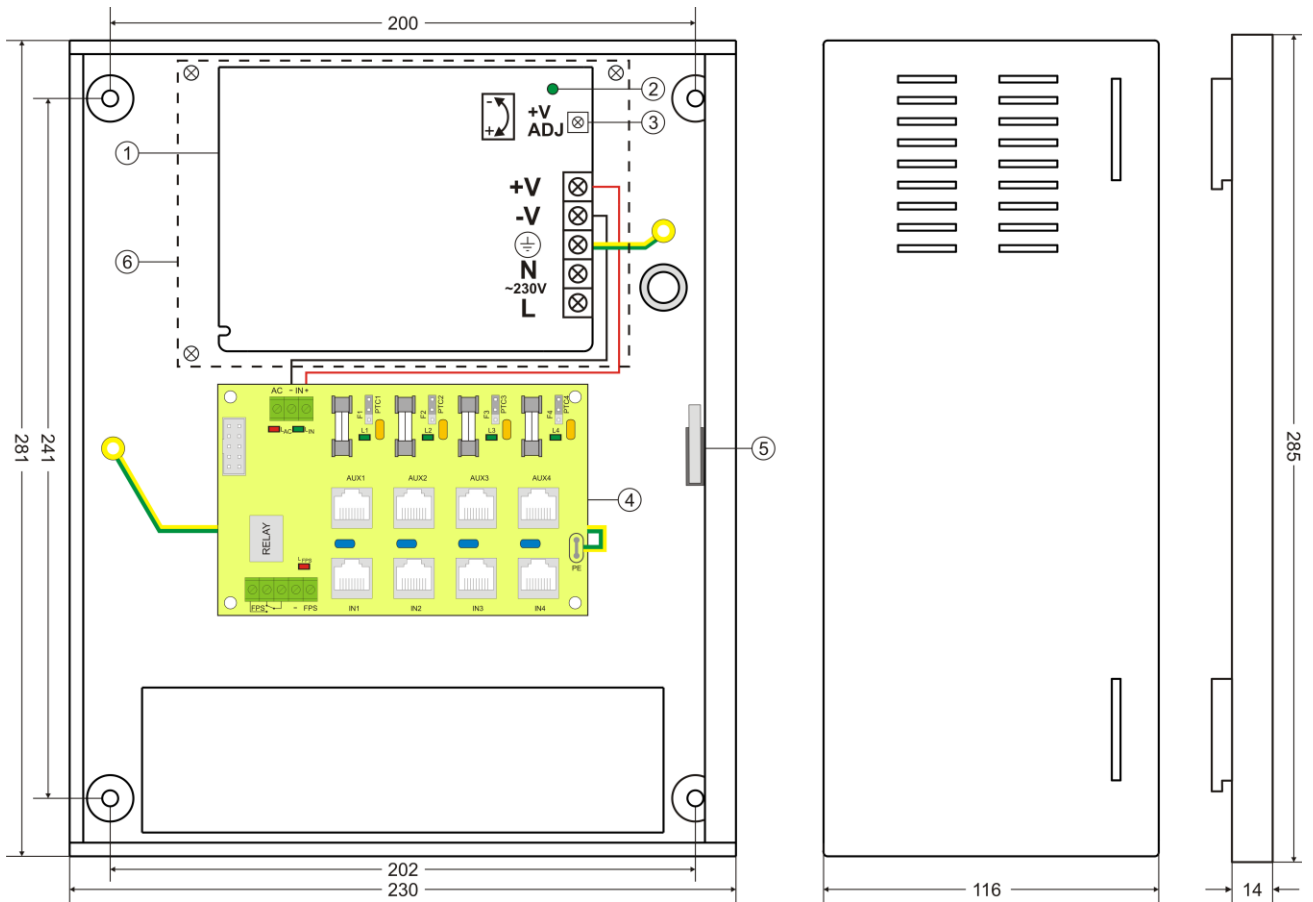
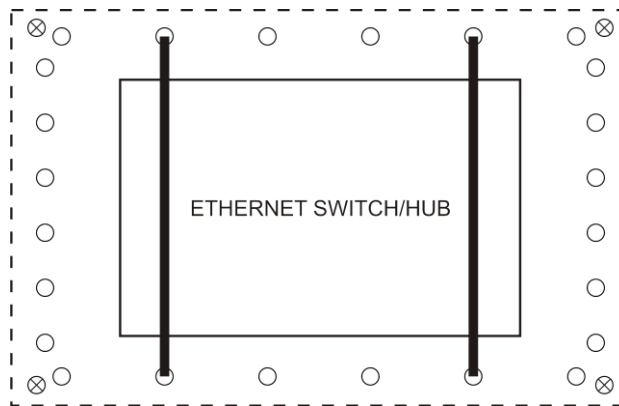

Fig. 3. The view of the PSU.
Fig.4. An example of mounting the Ethernet switch.
Component No. [Fig. 3]	Description
Tab. 2. Components of the PSU (see Fig. 3).
Mounting	See Fig. 3
3. If required, mount the switch network (Ethernet Switch / Hub) on the mounting plate (element 6, Figure 3) using cable ties supplied with the PSU. An example of mounting the Ethernet switch is shown in Figure 4: